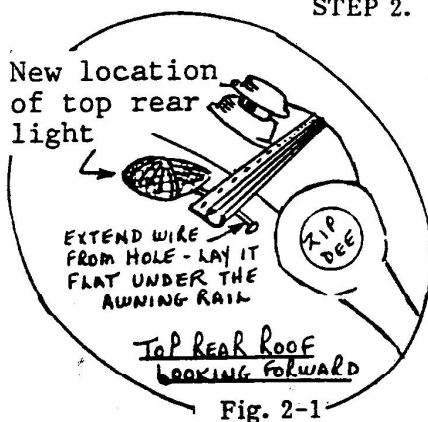
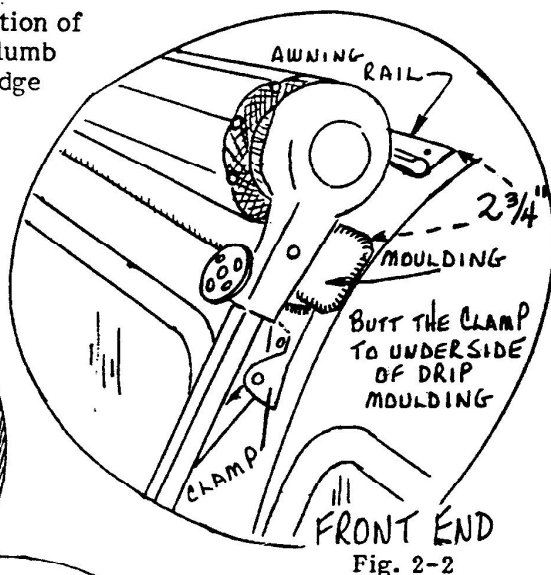

Fig. 2-1
Fig. 2-2
STEP 2. Remove rear top running light from mounting and pull up extra wire for re-installing above awning rail after Step 3. (See Fig. 2-1.)
Position awning rail as shown in Fig. 2-2. Rail should extend evenly beyond plumb lines. Be sure running light wire is put flat under rail (Fig. 2-1). Attach rail with #6 or #8 x $1/2$ " sheet metal screws (not provided).
Hold assembled front main arm firmly against the coach so that clamp is butted against bottom of drip molding as shown in Figures 2-2 & 2-3 and so that hinge and clamp are aligned on plumb lines as shown in Fig. 3. Mark locations of clamp and hinge and mount as shown. Attach spring arm assembly. Repeat step for rear arms.